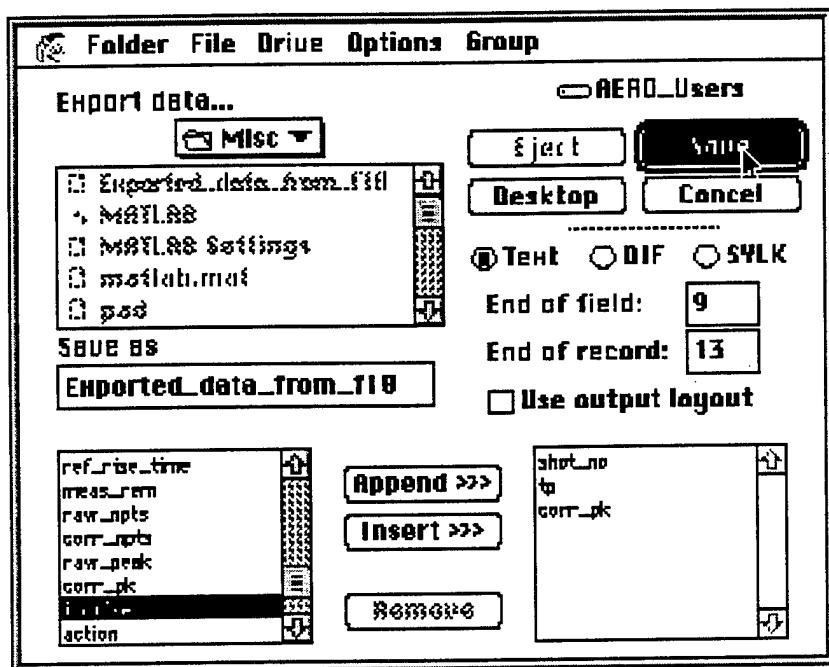

Figure 3.17: Dialog box after selecting shot number, test point, and corrected peak
5. Click on the appropriate field names displayed in the bottom left corner of the dialog box. For this example, select **shot_no**, and click on the "Append" button. Next, click on **tp** and then "Append". Finally, scroll down the list until you find **corr_pk**, click on it to select it, and then click on the "Append" button once again. The dialog box should now look something like Figure 3.17.